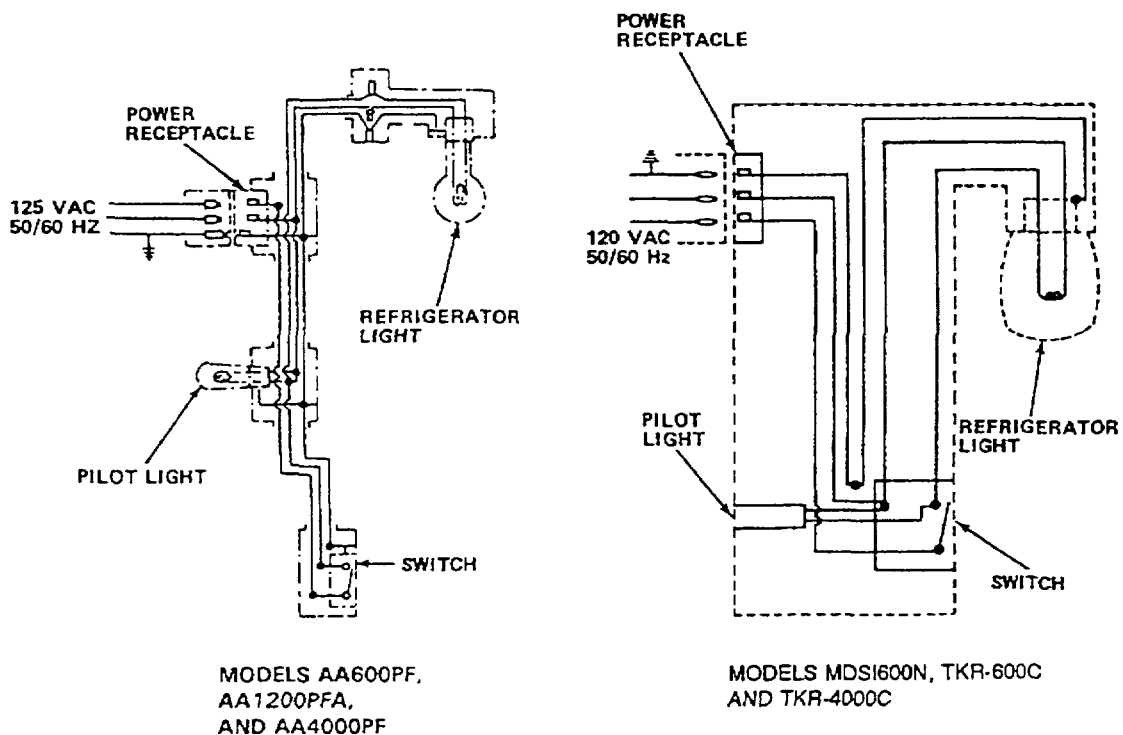

Figure 1-3. Wiring Diagram
- c. The external power receptacle, mounted outside the refrigerators, is connected to a light switch, light and pilot light. The light switch is mounted inside the refrigerator and controls the inside light. The pilot light is outside the refrigerator and indicates when the inside light is on. This circuit requires a 125 VAC input to power the lights. (See figure 1-3.)